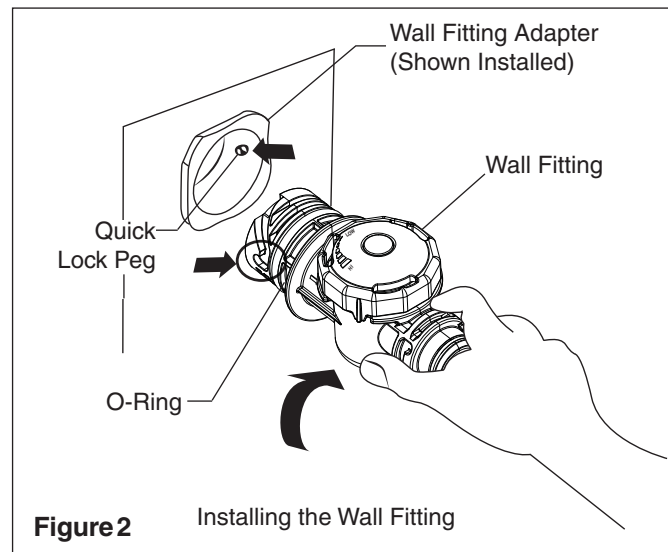

Figure 2
5. Insert wall fitting adapter into the dedicated 1-1/2" NPT threaded return line. Hand tighten until snug. See **Figure 2**.
6. Align wall fitting with the quick lock pegs inside the wall adapter. Push the wall fitting into the wall adapter until it bottoms out. Twist 1/4 turn clockwise to lock the wall fitting. **Pull gently outward to engage quick lock pegs.** See **Figure 2**.